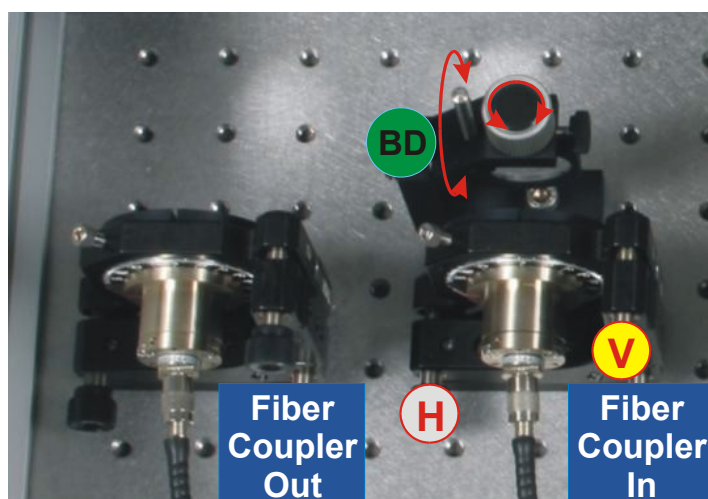

Fig. 2.8: Beam adjustment for the external bypassed lasers. The Beam Displacer **BD** shifts the beam while the Beam Splitter **BS** adjusts its angle.
5. Adjust the count rate of the oscilloscope window adapting the laser intensity of the external laser to around 50 kilo counts / second as shown in Fig. 2.8.